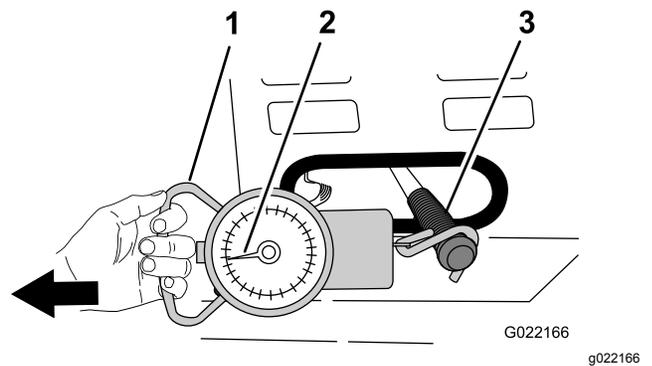

Figure 68
4. Attach a spring scale with a range of 15 to 30 kg (35 to 55 lb) to the grip of the clutch lever (Figure 68).
5. Using the spring scale, pull the clutch handle to the ON position as shown in Figure 68.
6. Observe the spring scale while pulling to see what the highest pressure is when moving the clutch handle from the OFF position to the ON position (Figure 68).